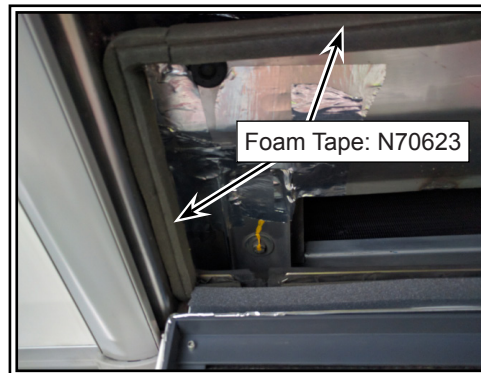

Figure 5 - Installation of Foam Tape
- 1.11. Inspect seal integrity around the perimeter of the structure and replace if missing, damaged or loose (see Figure 5).